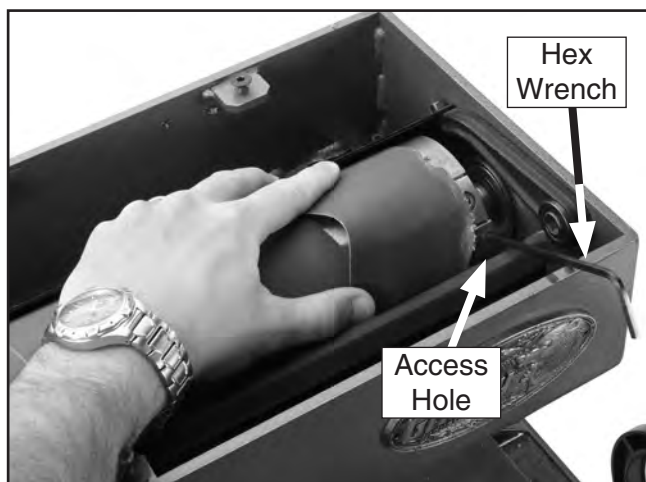

Figure 21. Hex wrench inserted into access hole on right tension wheel.
10. Rotate drum toward you so hex wrench rests against frame, as shown in **Figure 21**.